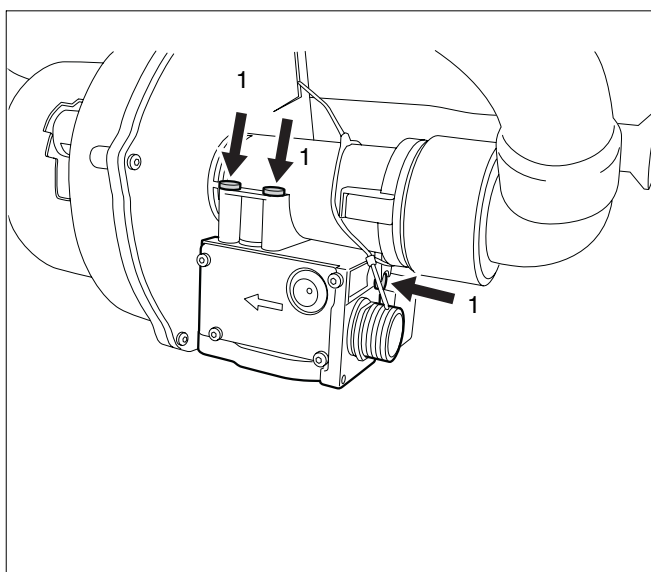

Fig. 85 Loosening the screws
- Loosen three screws on the gas control valve (see fig. 85, pos. 1).